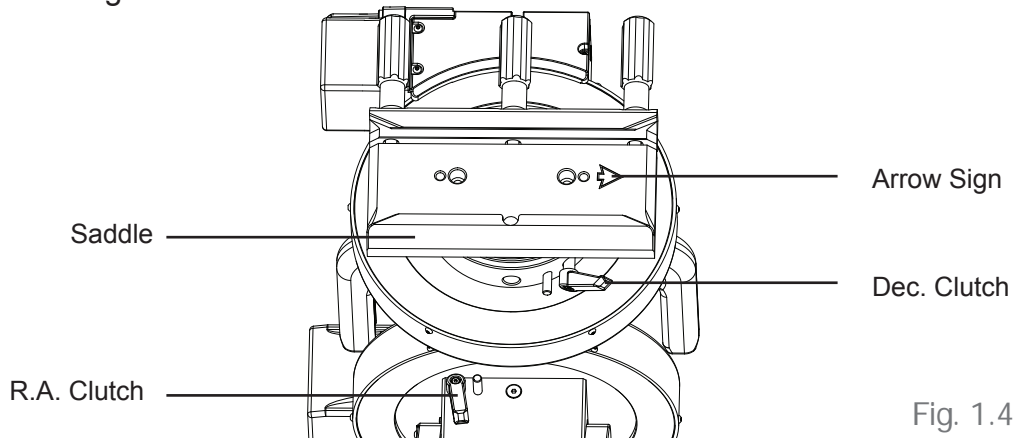

Fig. 1.4
- The R.A. Axis is secured by tightening the R.A. Clutch. (Fig. 1.4)
2. Release the Dec. clutch knob (Fig 1.4) and rotate the Dec. axis until the three knobs on the saddle are facing upward and the dovetail groove is leveled (Fig 1.4). Tighten the Dec. clutch again.
4. While holding the telescope horizontally, seat or slide the dovetail bar of the telescope to the groove of the saddle. The pointing direction of the telescope should match the arrow sign on the saddle (Fig 1.4).